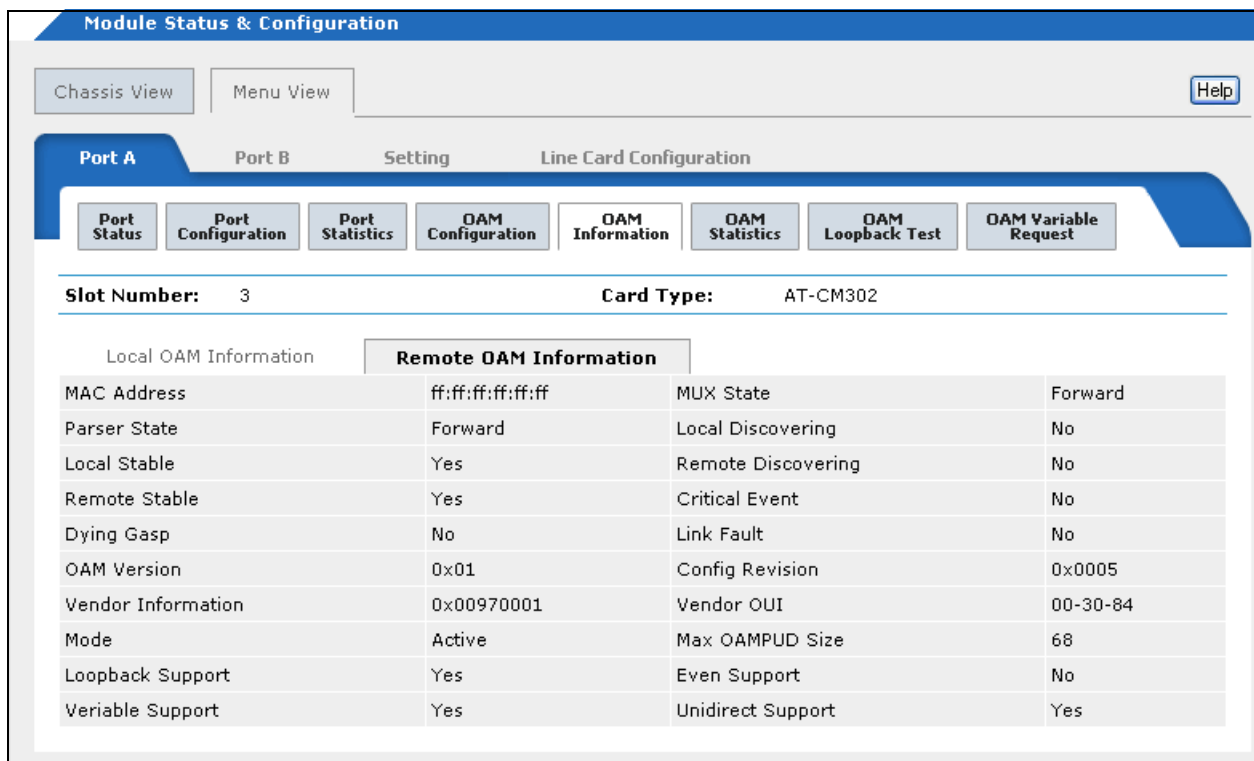

Figure 115. Remote OAM Information Tab
5. Click the **Remote OAM Information** tab to display the tab in Figure 115.